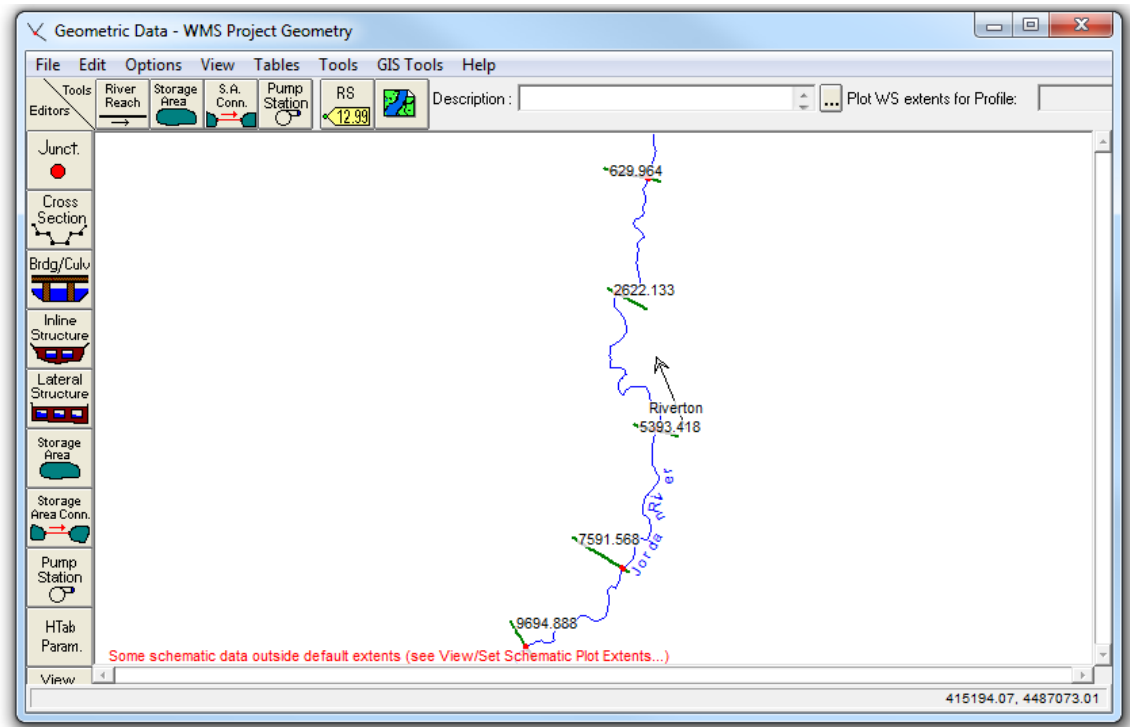

Figure 6 Geometric data imported from WMS
9. The display should look similar to that shown in Figure 6 (If not using the most recent version of HEC-RAS, a plot extents error message may be received. This can be corrected by selecting **View / Set Schematic Plot Extents** and selecting the **Set to Computed Extents** button).